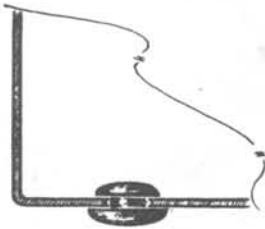

Fig. 10
10) Insert the rubber feet in the openings provided in the bottom of the cabinet as shown. The method is to work the rounded portion of each foot into the interior of the cabinet from the outside, using a small screwdriver. The flat portion should be the actual resting or contact surface. See insert drawing of Fig. 10.